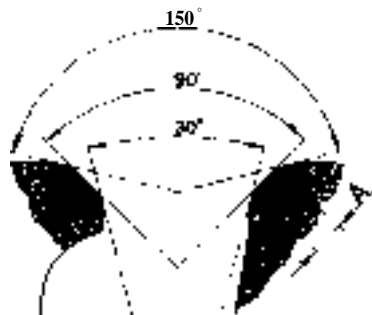

Fig. 20. Grinding of valve seat
6. Ream or grind the valve seats (Fig. 20). Grind of just enough material so that the valve seat has the right shape and a good mating surface.